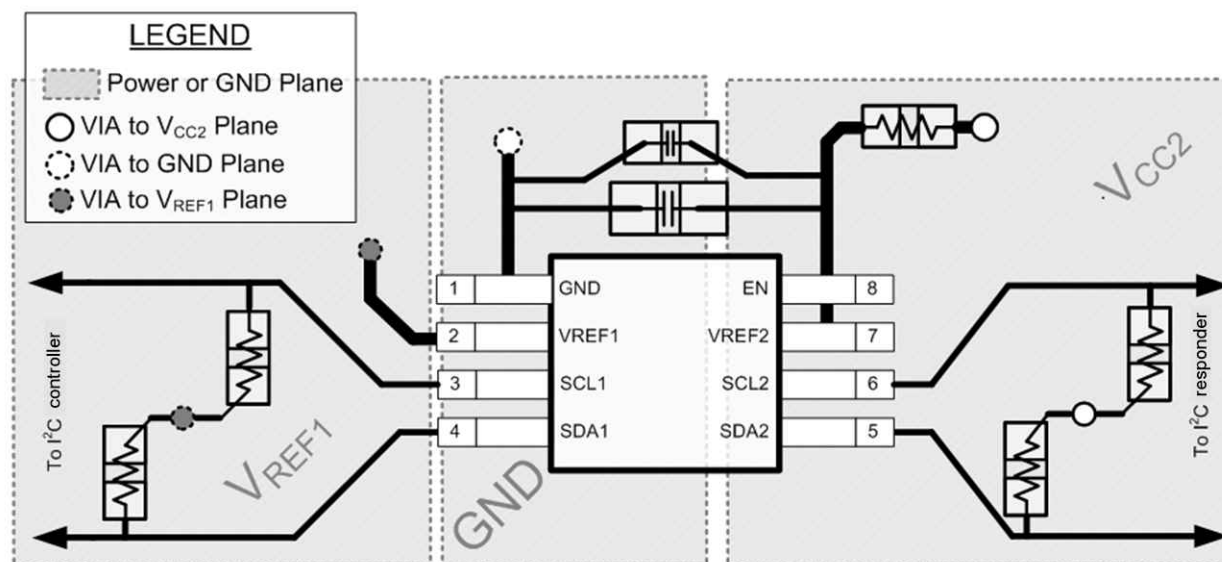

Figure 9-8. Layout Example
In all PCB layouts, it is a best practice to avoid right angles in signal traces, to fan out signal traces away from each other on leaving the vicinity of an integrated circuit (IC), and to use thicker trace widths to carry higher amounts of current that commonly pass through power and ground traces. The 100-pF filter capacitor should be placed as close to V_{REF2} as possible. A larger decoupling capacitor can also be used, but a longer time constant of two capacitors and the 200-k Ω resistor results in longer turnon and turnoff times for the TCA39306 device. These best practices are shown in Figure 9-8.
For the layout example provided in Figure 9-8, it would be possible to fabricate a PCB with only two layers by using the top layer for signal routing and the bottom layer as a split plane for power (V_{CC}) and ground (GND). However, a four-layer board is preferable for boards with higher-density signal routing. On a four-layer PCB, it is common to route signals on the top and bottom layer, dedicate one internal layer to a ground plane, and dedicate the other internal layer to a power plane. In a board layout using planes or split planes for power and ground, vias are placed directly next to the surface-mount component pad, which must attach to V_{CC} or GND, and the via is connected electrically to the internal layer or the other side of the board. Vias are also used when a signal trace must be routed to the opposite side of the board, but this technique is not demonstrated in Figure 9-8.